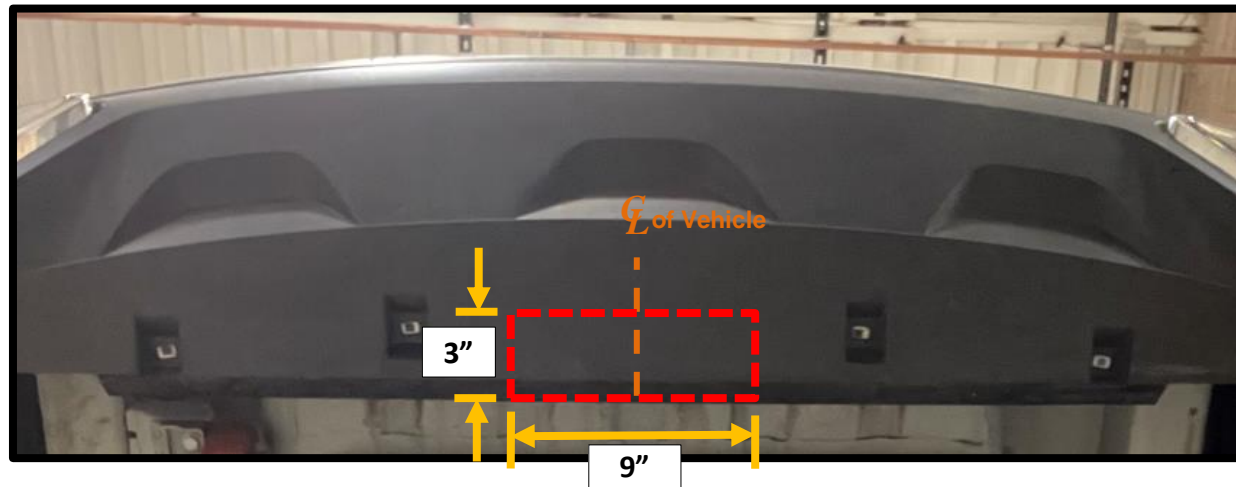

Figure 3
4. Remove screws - Using T15 torxbit remove (4) screws from bottom of fascia. This step is only for model years 2021-current.
5. Trim lower fascia (starting from 2021 model) - Using a tape measure, marker, and utility knife, measure, mark, and trim the lower fascia as shown in figure 3.